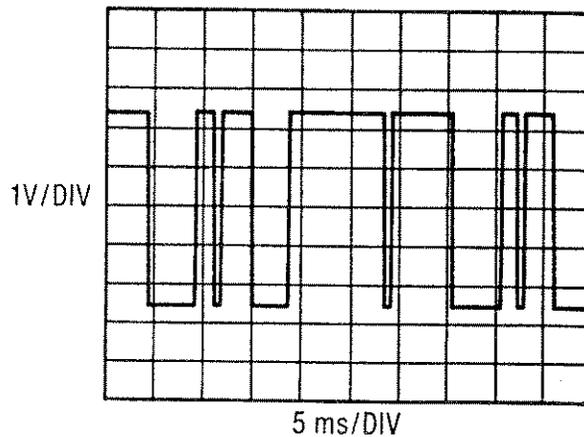

Figure 8-8. Ramp End Waveform
3. The COMP OUT (comparator out) or RAMP END signal at test point A5TP4 is not as shown in Figure 8-8. Refer to Amplifier Section Troubleshooting BD3.